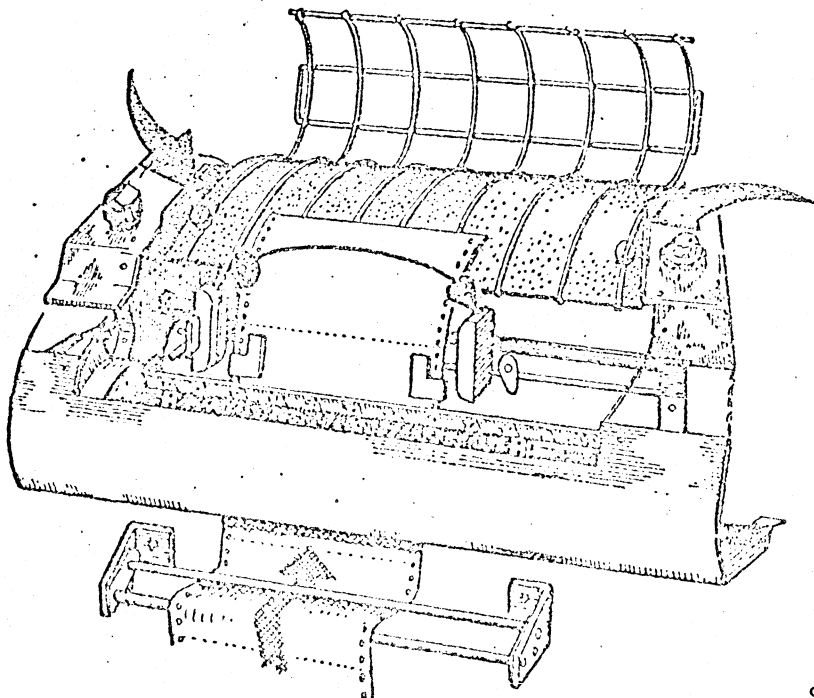

Figure 1-6
- j. Slip the left side paper guide holes over the left side tractor sprockets and lower the pressure plate. (FIG. 1-6)
- m. Slip the right side of the paper into the paper guide slot on the right side tractor. (FIG. 1-6)